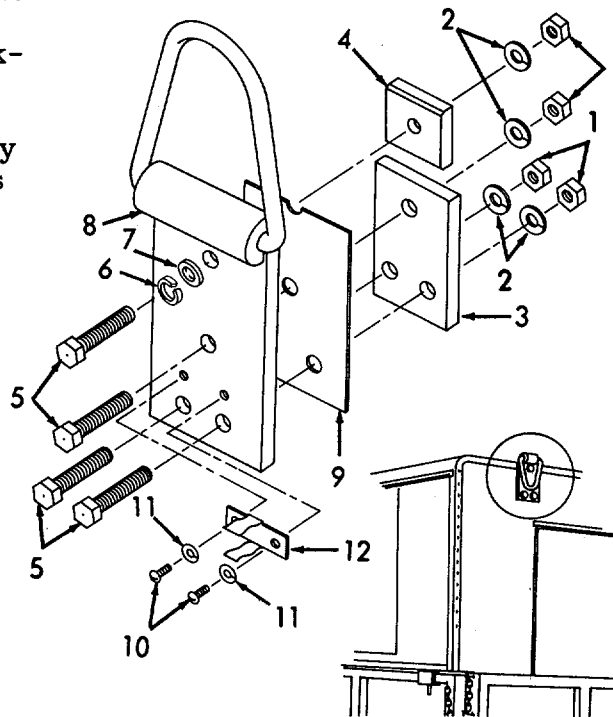
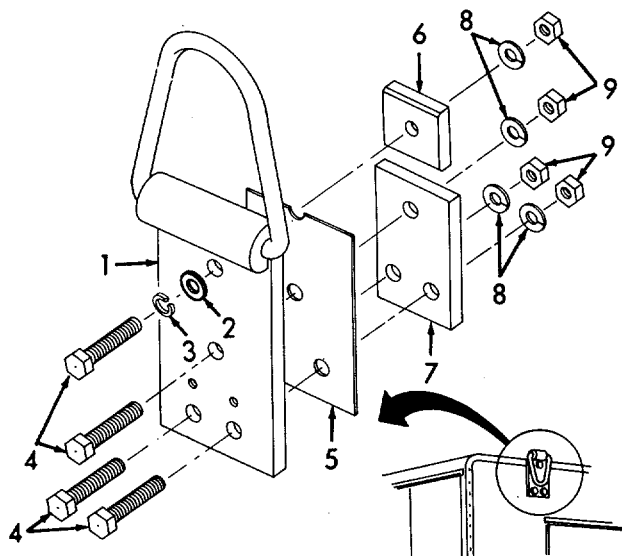

Figure 5-3. Lifting Loop Assembly Removal
Figure 5-4. Lifting Loop Assembly, Installation.
- (1) Inspect for loose or missing hardware.
- (2) Inspect for cracks, broken parts, rust, and corrosion.
b. Removal. (Refer to Figure 5-3).
- (1) Inspect for damaged hardware.
e. Repair. Repair of the lifting loop is limited to the replace of a defective clip as follows (refer to Figure 5-3):
- (1) Remove two screws (10), two lockwashers (11), and clip (12).
- (2) Install clip (12), two lockwashers (11), and two screws (10).
f. Installation. (Refer to Figure 5-4).